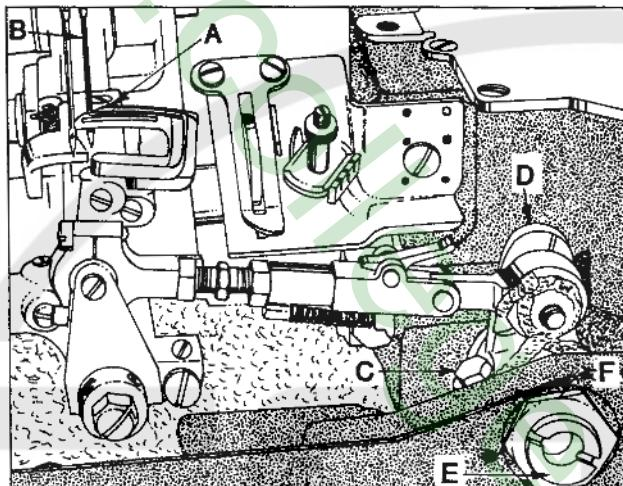
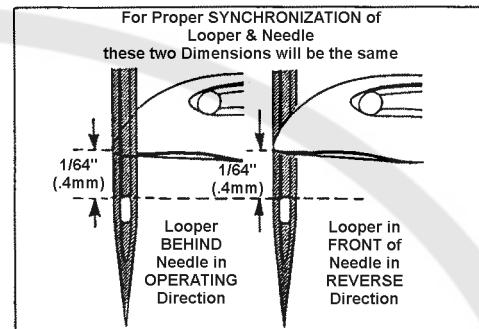

Fig. 4
Fig. 5
Insert looper into the looper rocker, pushing it all the way down and tighten screw against flat on shank of looper. Turn handwheel in operating direction until the point of the looper (A, Fig. 4) moving to the left, is even with the left side of the right needle (B). Note the height of the eye of the needle with respect to the looper point (See Fig. 5). Turn the handwheel in the reverse direction until the point of looper, again moving to the left, is even with the left side of right needle (See Fig. 5). If the height of the eye of the needle with respect to the looper point are the same, looper and needle motions are synchronized. A variation of .005 inch (.127 mm) is allowable. If the distance from the eye of the needle to the point of the looper is greater when the handwheel is turned in the operating direction, the looper drive lever rocker shaft will have to be moved slightly towards the rear. Moving the shaft towards the front acts the reverse.
NOTE: The 1/64 inch (.4mm) dimension shown in Fig. 5 is for final setting of needle bar height.
Loosen screw (C, Fig. 4) in looper drive lever (D). A rod of .146-40 thread or Union Special Screw No. 22870A can be threaded into the looper drive lever rocker shaft through the center of thrust adjusting screw (E). Tap or pull slightly as required to position shaft for proper synchronization. Tighten screw (C) securely and remove rod or screw used to position shaft. Loosen lock nut (F) and torque thrust adjusting screw (E) to 6 in. lbs. (7cm/kg); retighten lock nut (F) securely.
The height of the needle is correct when the top of its eye is 1/64 to 1/32 inch (.4 - .8mm) below the underside of the looper, when the looper point flush with the left side of the needle as shown in Fig. 5. If adjustment is necessary, loosen screw (B, Fig. 3) and move needle bar (A) up or down as required and retighten screw. Care should be taken not to disturb alignment of needle bar when moving the needle bar either up or down. The descending needles must be deflected alike on the back of the loopers.